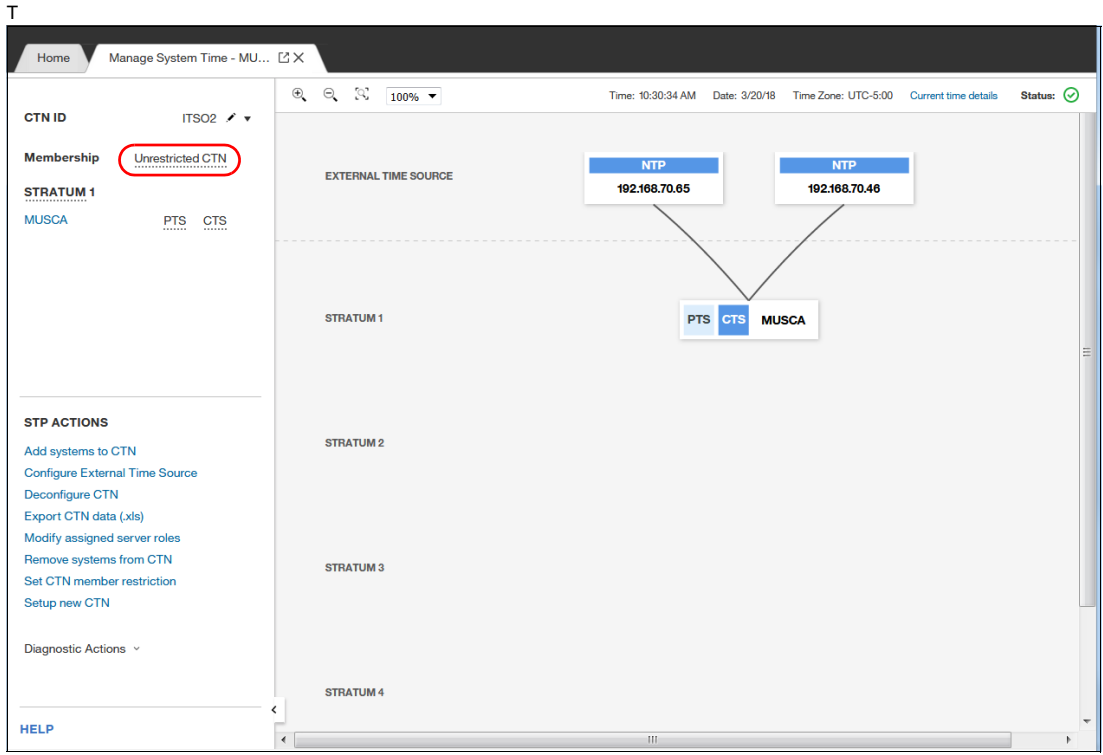

Figure 16-17 CTN configuration result - Unrestricted CTN
- After the configuration is applied, the CTN is active and the CPC time of day is directed to the ETS. The result is shown in Figure 16-17 on page 401.